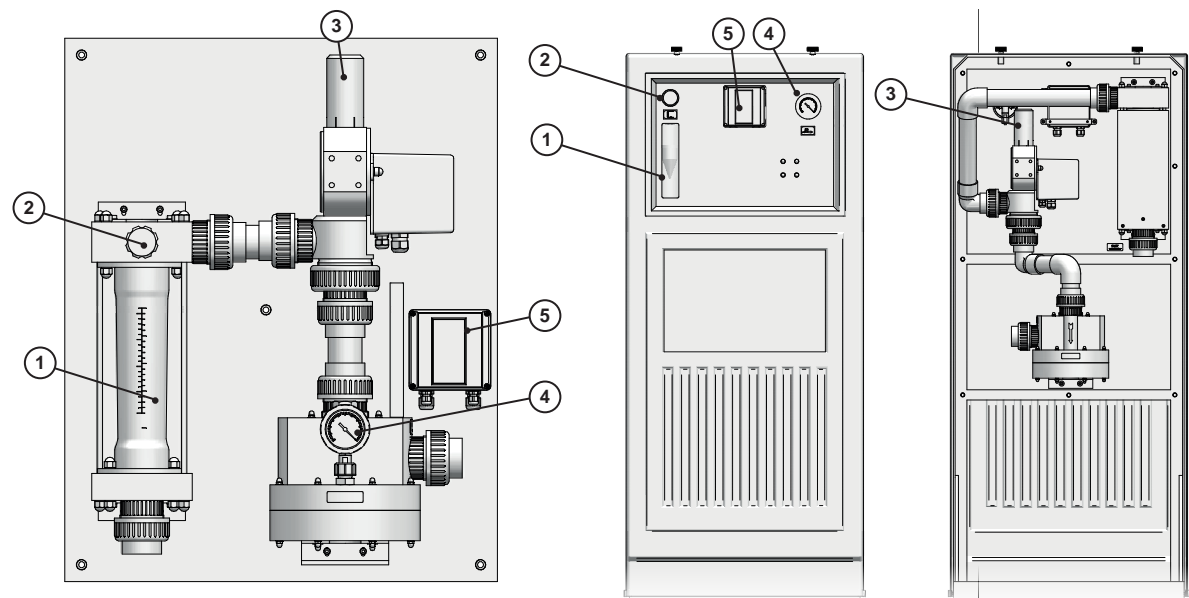

Fig. 17: Controls
2. Adjust the manual dosing valve (see fig. 17, position 2) until the flow meter displays the desired dosing quantity.